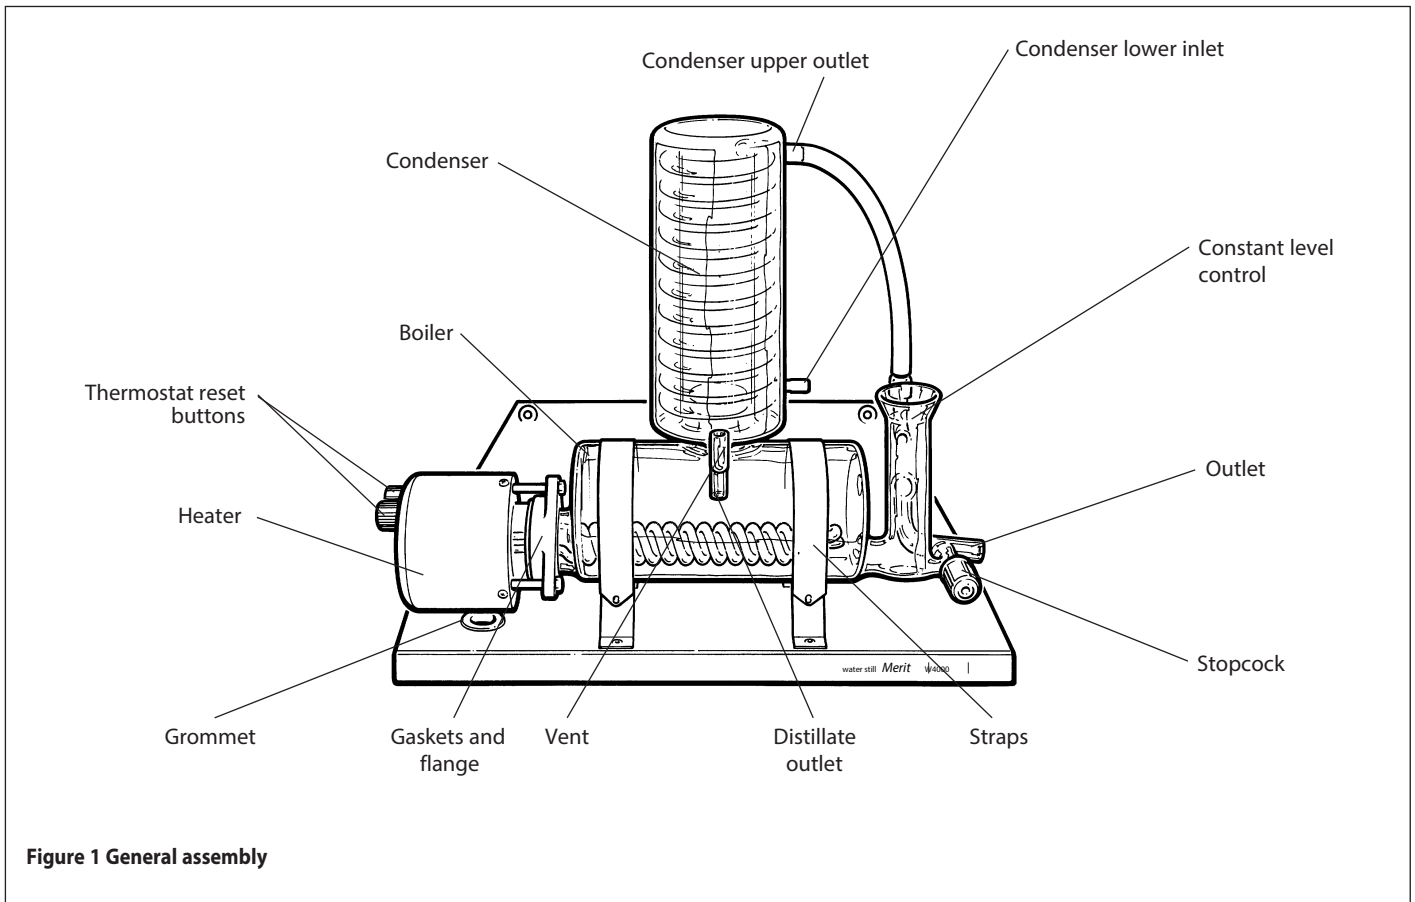

Figure 1 General assembly
6. From the hose kit take the 225mm length of 8mm bore plastics hose fitted with screwthread connectors at either end. Referring to Figure 1, screw one end of the hose to the upper outlet of the condenser and the other end to the glass thread on the constant level control. If the Still has been correctly assembled the hose should comfortably reach, without any strain.